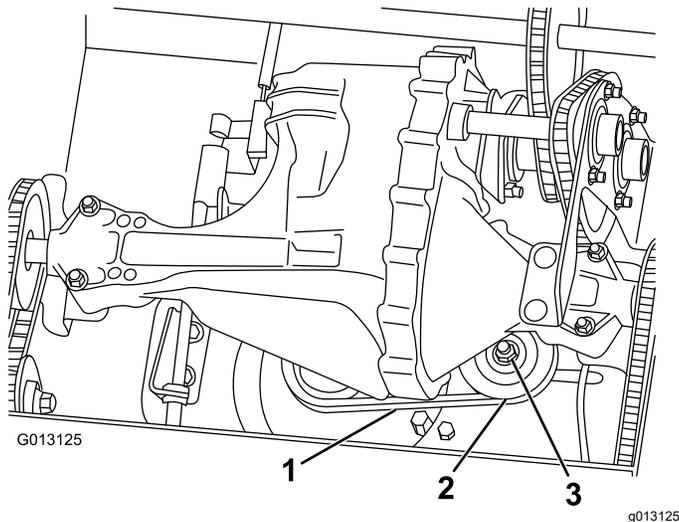

Figure 28
3. Push on a span of the drive belt with 10 pounds (4.5 kg) of force (Figure 28). If the belt flexes more than 1/2 inch (1.3 cm), tighten it as follows:
- A. Loosen the nut securing the idler pulley (Figure 28).